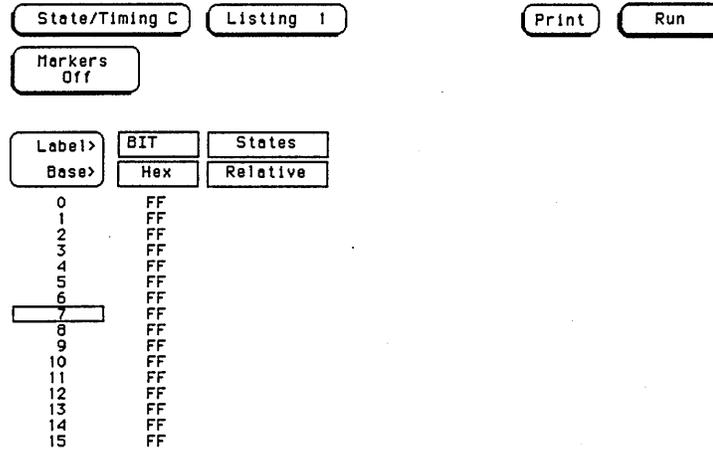

Figure 3-20. Listing Screen
6. Touch **Run**. The **Listing** screen will be displayed and will show F's for the channels under test. See figure 3-20.